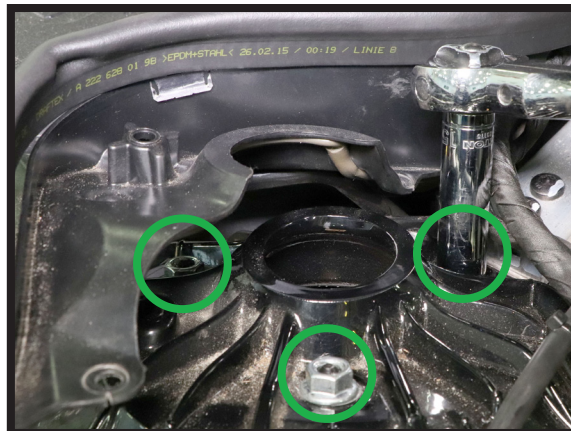

FIGURE 25
6. INSTALL THE THREE (3) TOP MOUNT NUTS PROVIDED IN THE ACCESSORY KIT. TIGHTEN TO MANUFACTURER'S SPECIFICATIONS. (FIGURE 25)